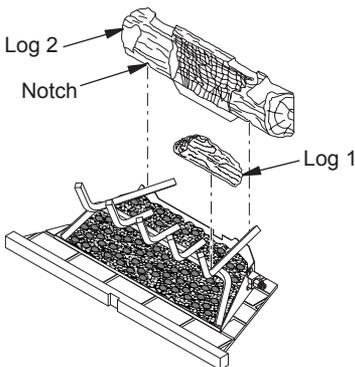

**Figure 24 - Pan and Ember Material Clearances**
4. Place just enough to cover entire surface and leave about a 1/2" gap under lower grate members to allow air to flow (see Figure 24, page 15).